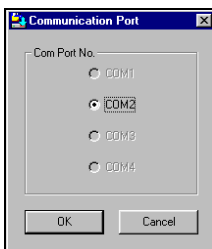

Figure 27 The Com Option box
- From the Options menu choose Com Port. The Com Port box appears. See Figure 27.